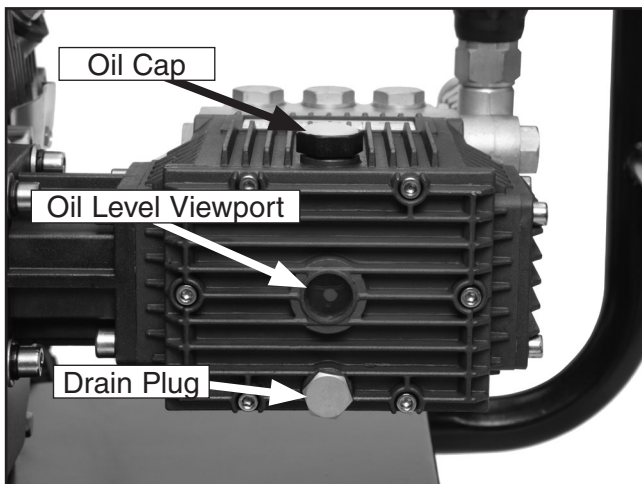

Figure 19. The pump oil cap and drain plug.
2. Loosen the oil cap (**Figure 19**).
3. Place a container under the oil drain plug (**Figure 19**).